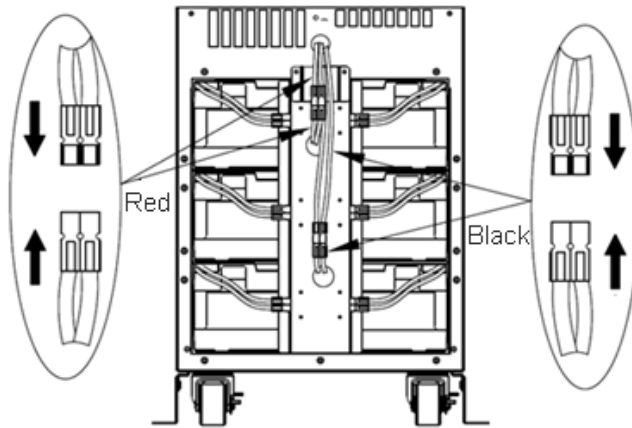

Fig.4-4 Connect the internal Battery Pack DC connectors
- 2) Connect internal battery plug and socket (red with red and black with black). Then connect the connector on the LCD display board and retighten the front panel. See Fig.4-4.